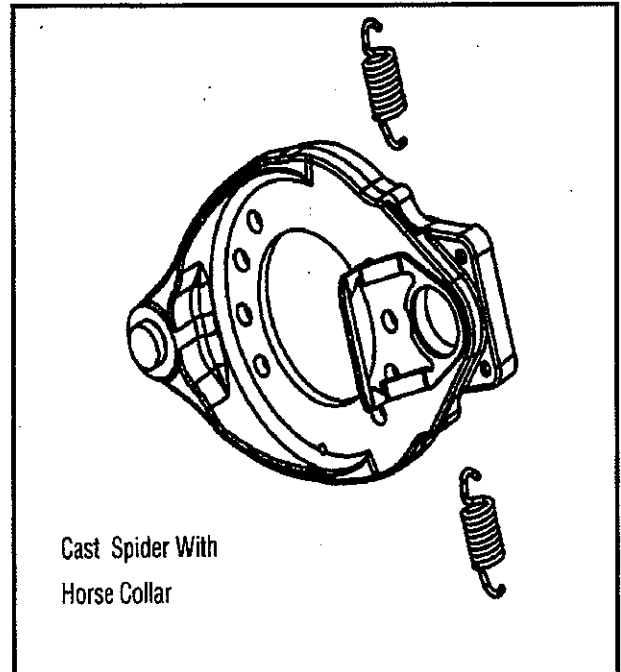

Figure 15—Return Spring
11. Remove and discard spring. (See Figure 15—Return Spring.)